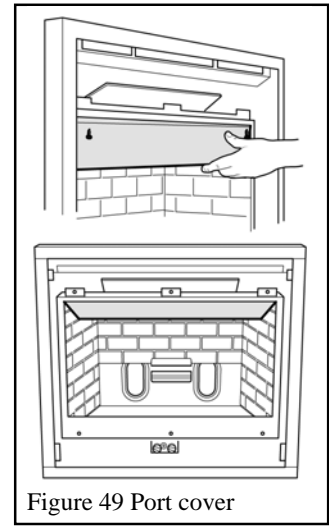

Figure 49 Port cover
3. Remove two screws from under the top front of the firebox. Using these screws fit the port cover. See figure 49.